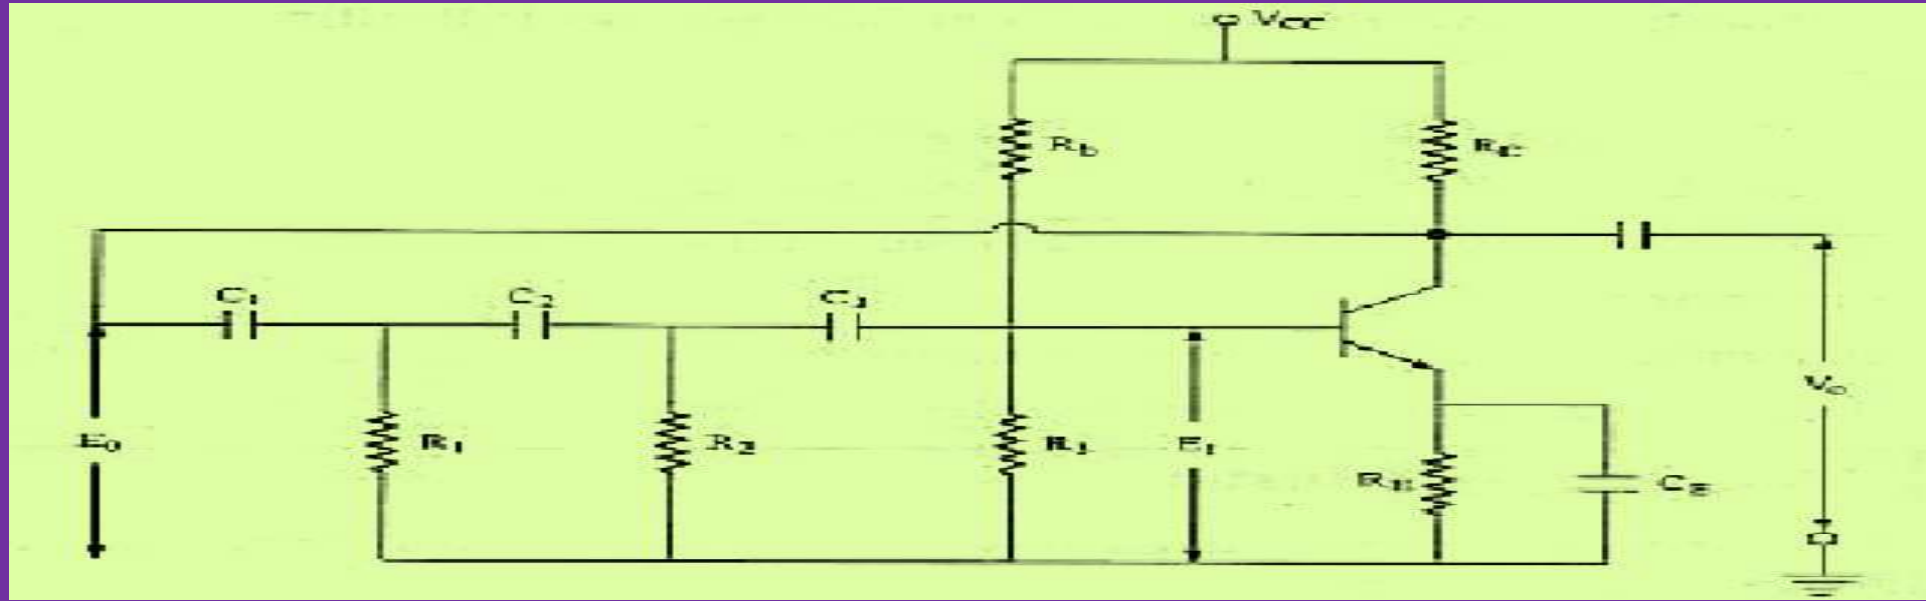

Fig 2(a): R C PHASE SHIFT OSCILLATOR.
- Fig.2. (c) shows the three section of RC network.